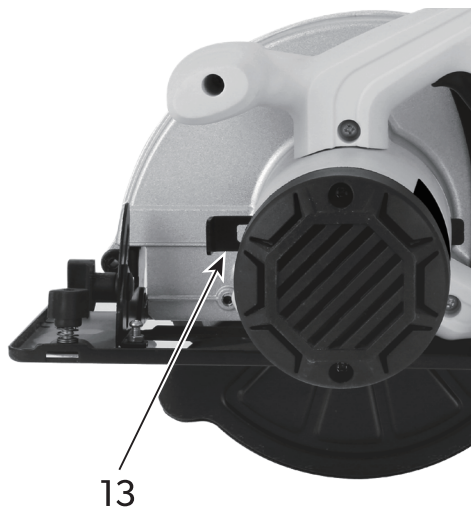

Fig. 3
2. Push the spindle lock button (13) toward motor housing as the arrow shows in fig. 3 and firmly hold it.
3. Turn the blade clamp bolt (11) anti-clockwise .
4. Remove the blade clamp bolt and outer flange (10).
5. Raise the lower guard (12) by using the lever for lower guard (1), and then remove the saw blade.